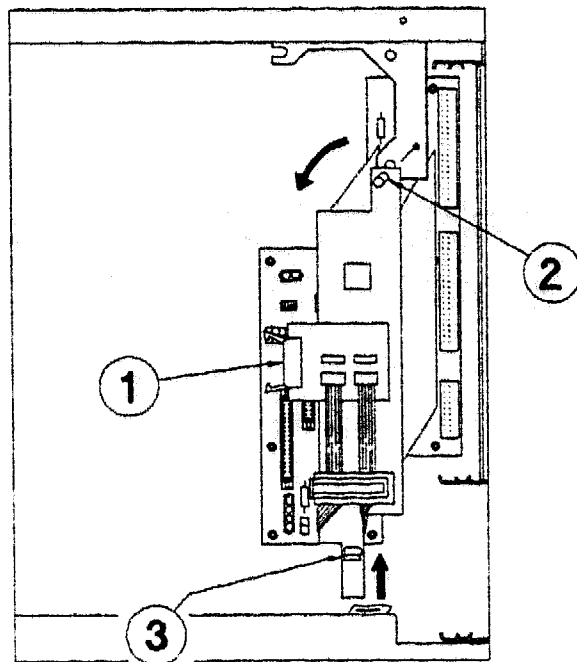

Figure 8-15. Removing the MO Drive Controller PCA Assembly
Refer to Figure 8-15.
8. Rotate the assembly away from the chassis, sliding the large ribbon cables out of their clip (Figure 8-15 (3)) as the assembly is pulled out.